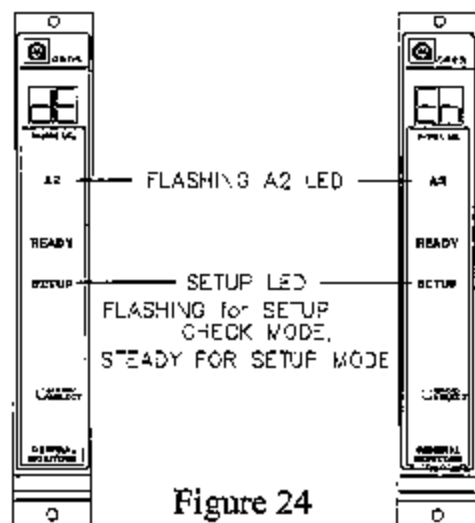

Figure 24
- Next, the **A2 LED** will be flashing while the Energized/De-Energized option is displayed (figure 24). The display will indicate the current selection, (**En** or **dE**). De-Energized is the factory default for this selection.